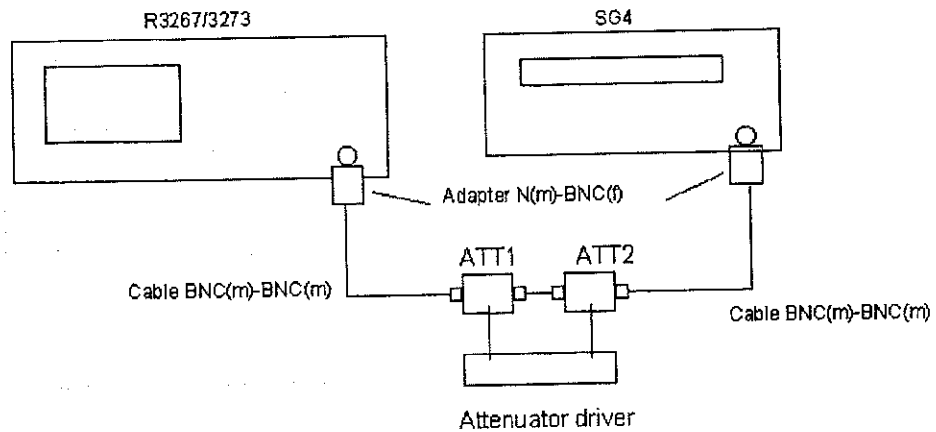

Figure 3-6 Setup of IF Gain Fidelity Test
3. After AUTO CAL function has completed, connect equipment as shown in Figure 3-6.